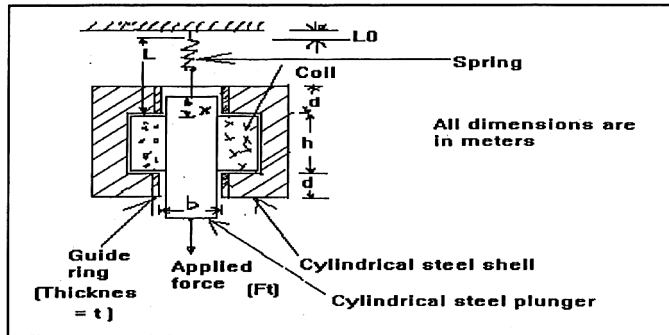

Fig.2
3. Cross section of a cylindrical **solenoid magnet** is shown in fig.2; which shows the cylindrical plunger of mass ' M ' kg. moves vertically in brass guide rings of thickness ' t ' meter and mean diameter ' b ' meter . The permeability of brass is the same as that of free space. The plunger is supported by a spring whose elastance is ' K ' newtons/m. Its un-stretched